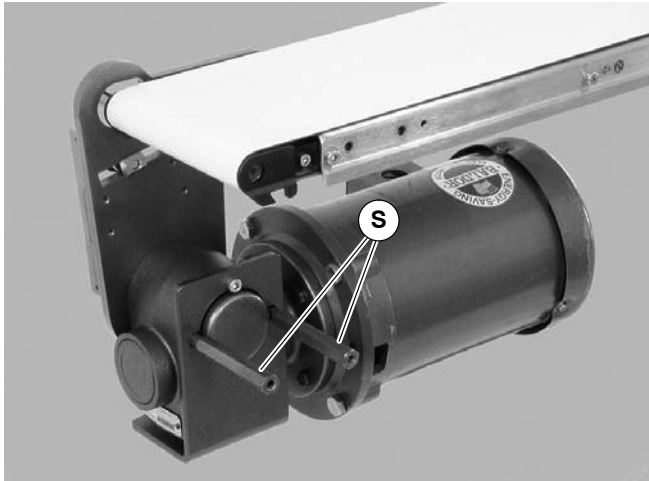

**Figure 13**
6. On side opposite drive output shaft, remove two screws (AB of Figure 13).